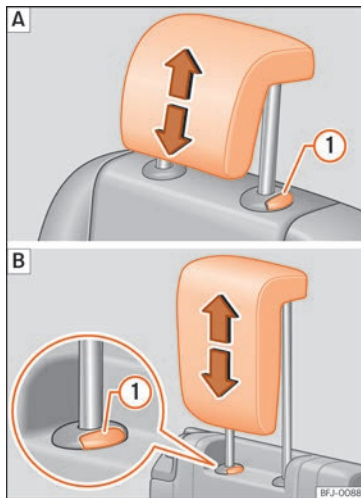

Fig. 145 Removal of the rear head restraints:
- Remove the head restraint completely while pressing button »» Fig. 145 ①.